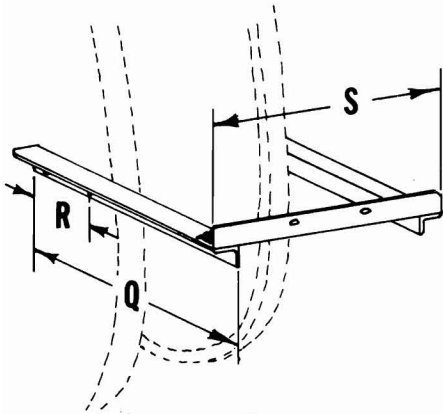

FIG. 11
**NOTE:** Unless there is unavoidable interference, always use the FIG. 11 (SM) bracket.